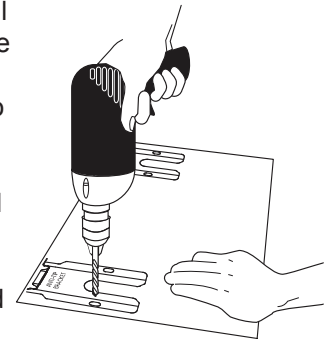

Fig. 6
- Drill pilot holes & fasten bracket** - Drill 1/8" pilot hole where screws are to be located (Fig. 6). If bracket is to be mounted to the wall, drill pilot hole at an approximate 20° downward angle. If bracket is to be mounted to masonry or ceramic floors, drill 3/16" pilot hole 1-3/4" deep. The screws provided may be used in wood or concrete material. Use 5/16" nut-driver or flat head screwdriver to secure the bracket in place.